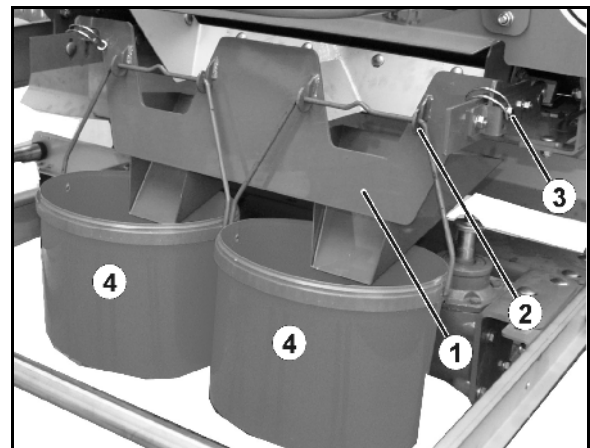

Fig. 90
6. Hang the calibration device (Fig. 90/1) in the pockets (Fig. 90/2) and secure using clip pins (Fig. 90/3) sichern.
7. Hang each one calibration bucket (Fig. 90/4) on the hook underneath the outlets.